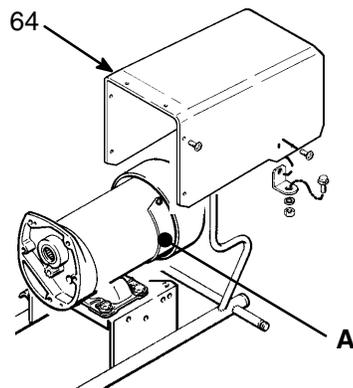

Fig 21-1
1. Remove the motor shield (64). Remove the inspection covers (A) and gaskets on each side of the motor. See Fig 21-1.